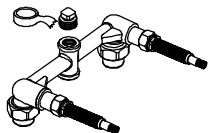

Fig.2
- 2 For tub installation only, plug top outlet. For shower installation only, plug bottom outlet (see Fig. 2)